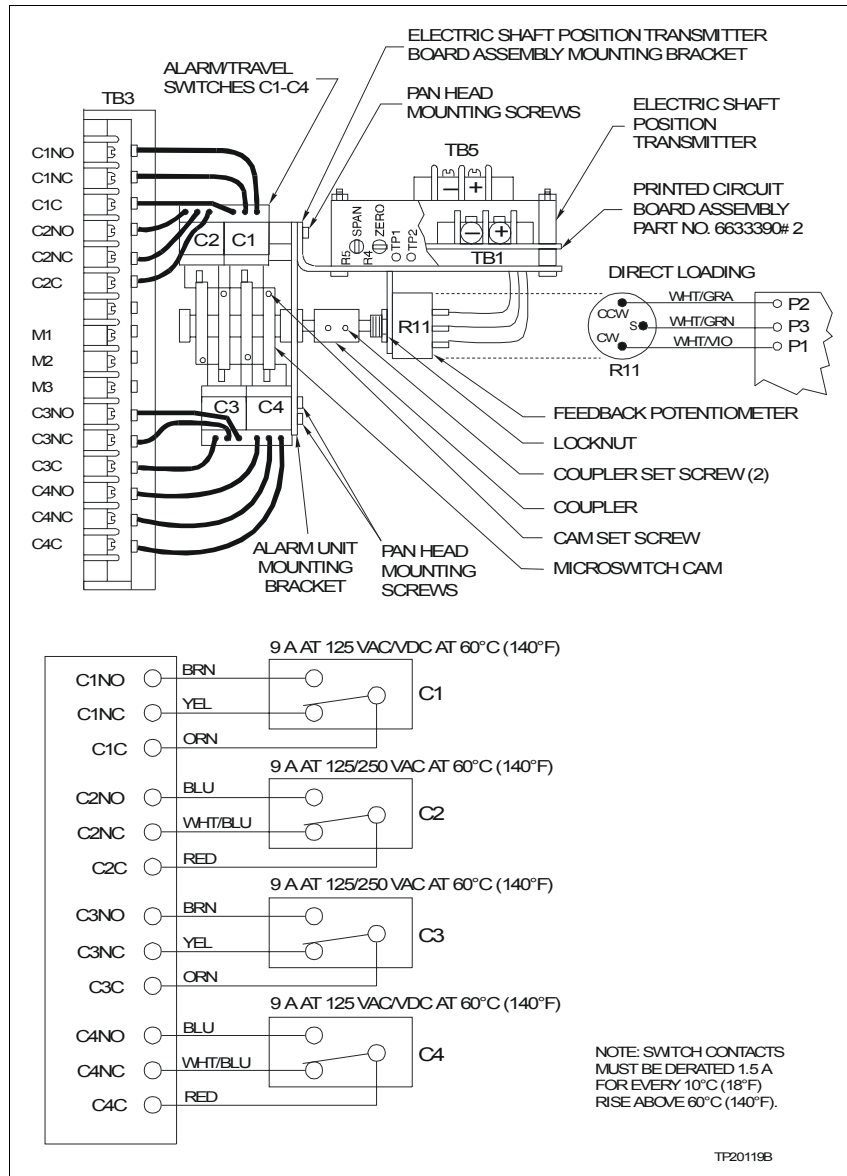

Figure 3-19. Electric Shaft Position Transmitter and Alarm/Travel Switches (for nomenclature options 11 in the sixth and seventh positions)
**NOTE:** Refer to Figure 3-19.
**NOTE:** Refer to Figures 3-19 through 3-22.